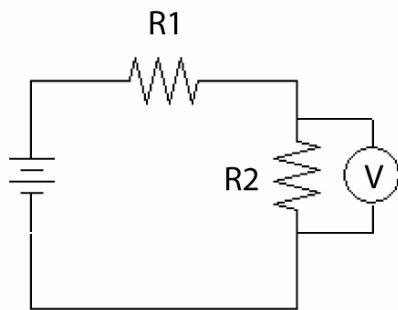
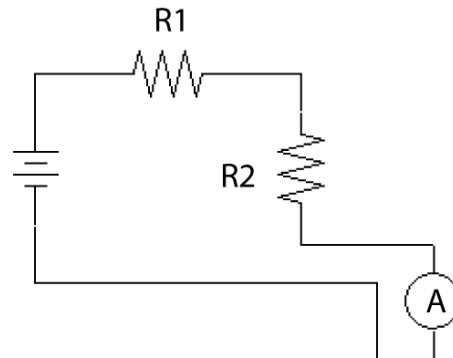

Figure 4a: schematic of a voltmeter in a circuit
Figure 4b: schematic of an ammeter in a circuit
**A voltmeter must be connected in parallel(across) to the circuit element of interest,** as shown in figure 4a. Since the voltmeter measures potential difference between two points, it is easy to connect. To measure the potential difference (voltage drop) across a resistor, use a cable to connect one plug of the voltmeter to the circuit before the resistor and a second cable to connect the other plug of the voltmeter after the resistor. A voltmeter typically has a very large internal resistance; therefore the very little current will flow through the voltmeter. Consequently, the current in the circuit will be approximately the same before and after the voltmeter is connected.
**An ammeter must be connected in series with the circuit element of interest**, as shown in Figure 4b above. This means that unlike measuring voltage, if you want to measure current you must break the circuit and wire the ammeter in. All of the current must flow through the ammeter in order for it to be measured. If you use your finger to trace the path of a charge in Figure 4b after it leaves resistor R1 you will see that it must go through both the resistor R2 AND the ammeter. In contrast, tracing the path of a charge in Figure 4a you will see that it has two “parallel” paths through which it can go it will go through either R2 or the multimeter (do not connect an ammeter in this manner). An ammeter typically has a very small internal resistance. Therefore, the current in the circuit is approximately the same before and after the ammeter was connected.